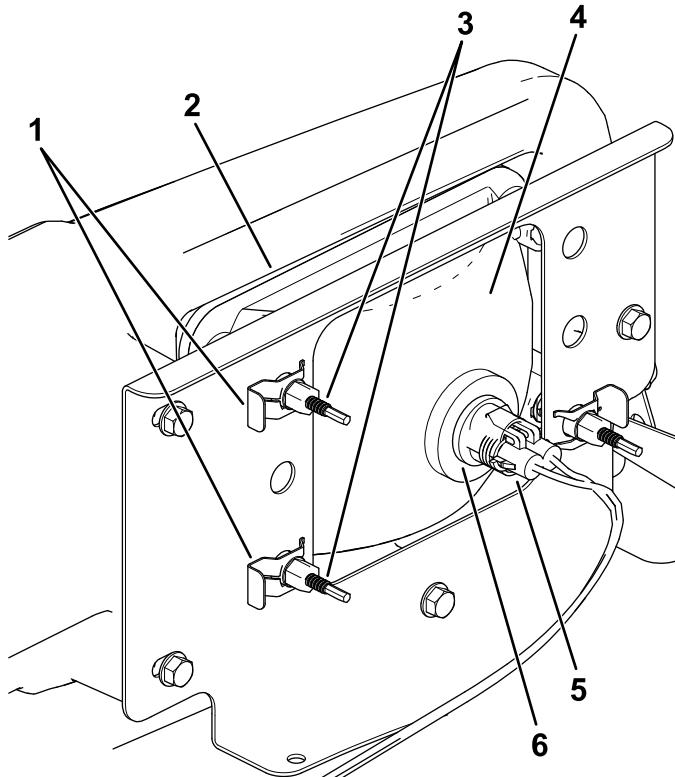

Figure 49
3. Disconnect the electrical connector for the harness from the connector of the lamp assembly (Figure 49).
4. Remove the speed clips that secure the headlight to the headlight bracket (Figure 49).
5. Remove the headlight assembly by moving it forward through the opening in the front bumper (Figure 49).
6. Install the new headlight through the opening in the bumper (Figure 49).
8. Connect the electrical connector for the harness to the connector of the lamp assembly (Figure 49).
5. At the back of the headlight assembly, rotate adjustment screws (Figure 49) to pivot the headlight assembly and align the position of the cast beam.